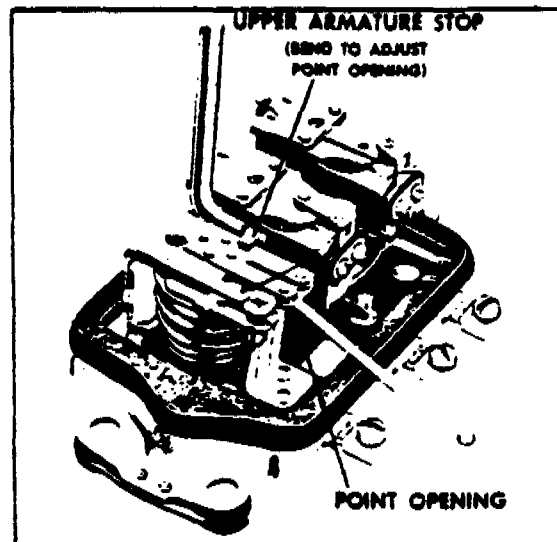

FIGURE 9-10. CUTOUT RELAY
b. Point Opening - Check point opening and adjust by bending the upper armature stop (Figure 9-10).